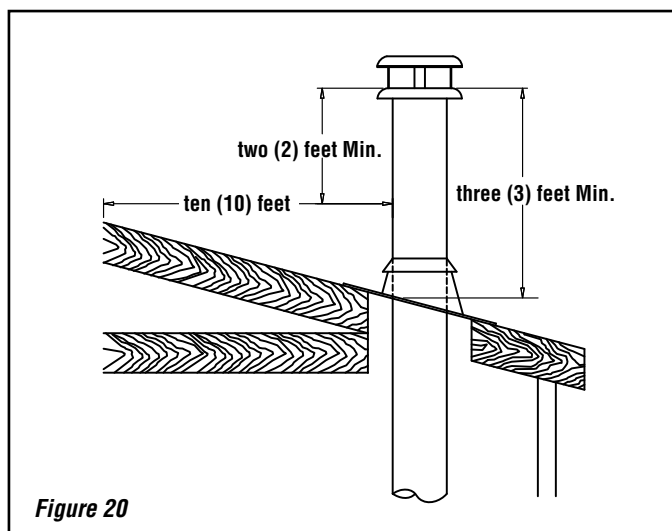

Figure 20
5. All chimney installations must include at least one support in order to be able to take any lateral load. The maximum chimney length that can be supported by the fireplace is nine (9) feet (2.75 m) for Secure Temp S2100+*/ Nova Temp HT6000+*/ Secure Temp GX* and 26 feet (8m) for ACBI* (air cooled) chimney. In altitude, add 18" (450 mm) to the chimney for every 2,000 feet (600 m) above sea level.
6. The chimney must extend at least three (3) feet (915 mm) above its point of contact with the roof and at least two (2) feet (610 mm) higher than any wall, roof or building within ten (10) feet (3 m) of it (**Figure 20**).
7. If the chimney extends higher than five (5) feet (1,500 mm) above its point of contact with the roof, it must be secured using a roof brace.